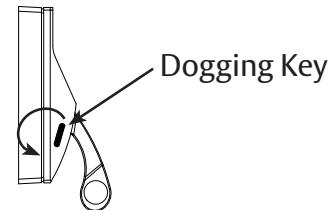

Figure 6
3. Be sure cases are level. (Figure 6)